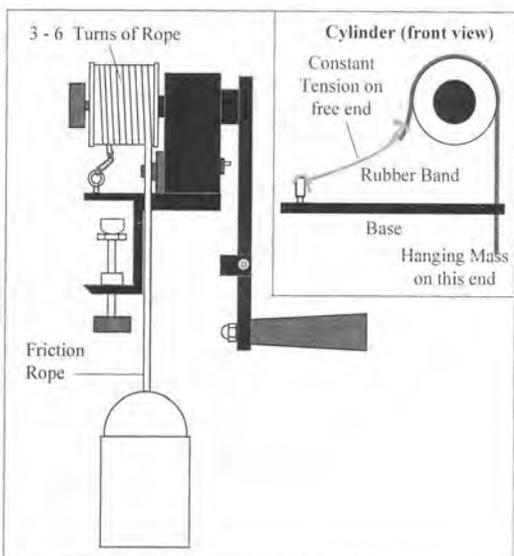

Figure 5.1
6. Tie the rope to rubber band anchored to the base-plate of the crank, as shown in Fig. 5.1. The rubber band should be through the hook in such a way that it creates two loops. (One loop is not strong enough to maintain proper tension in the rope for most rubber bands—loop it through so that it is doubled up. Ask you TA/TI for help if needed.) Pull the rubber band's loops towards the aluminum cylinder before tying that end of the rope off, so that when you are not cranking the rubber band maintains some tension in the rope. Make sure the rope does not cross over itself anywhere on the cylinder.